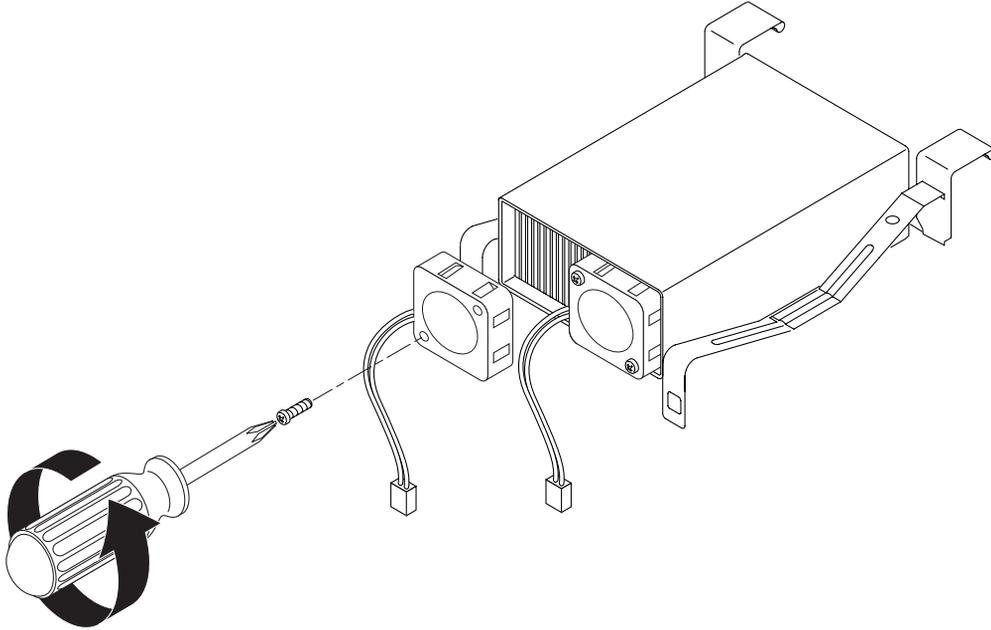

FIGURE 5-22 Removing the Heat Sink Fans
6. Using a No. 1 Phillips screwdriver, remove the screws securing the fans to the heat sink and remove the fans (FIGURE 5-22).